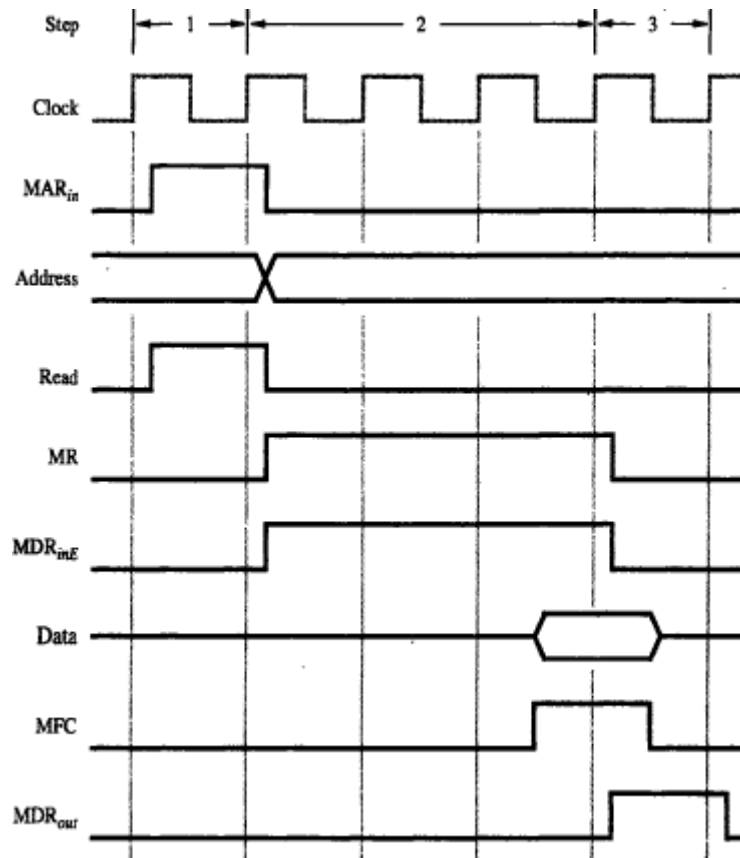

Figure 7.5 Timing of a memory Read operation.
- Consider the instruction *Move (R1),R2*. The sequence of steps is (Figure 7.5):